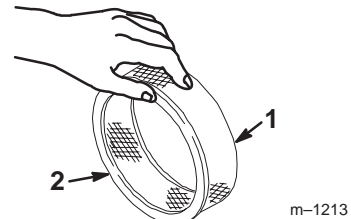

Figure 31
5. Lightly tap the paper filter on a flat surface to remove dust and dirt (Fig. 31).